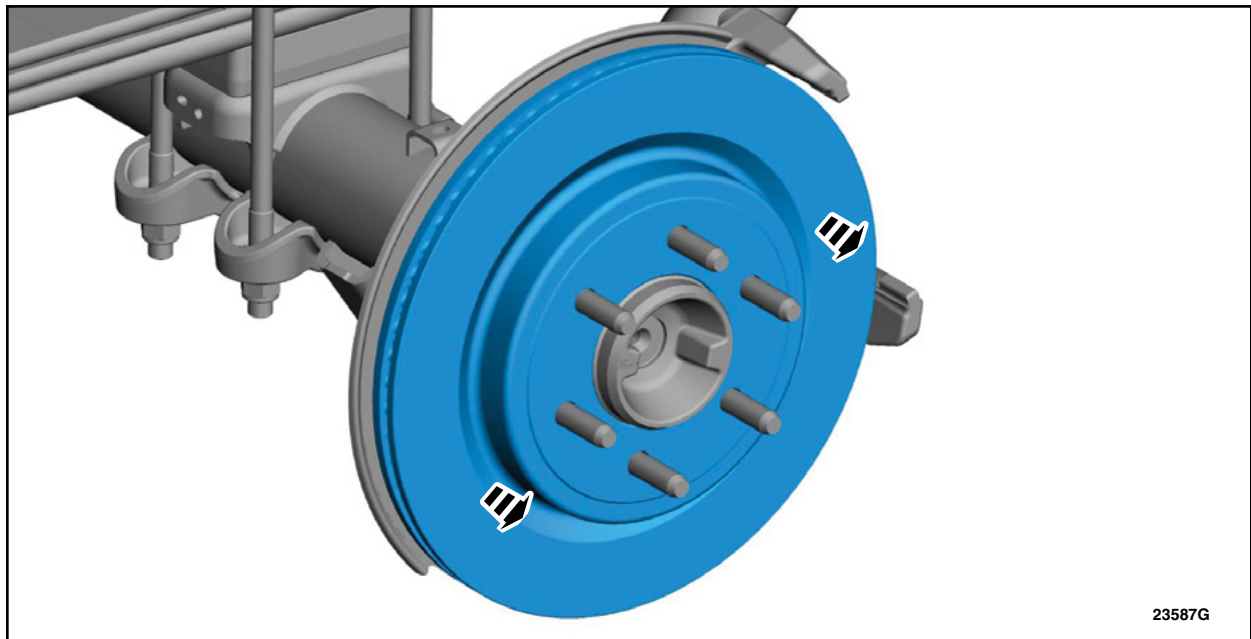

FIGURE 6
9. On both sides, remove the brake disc. See Figure 6.